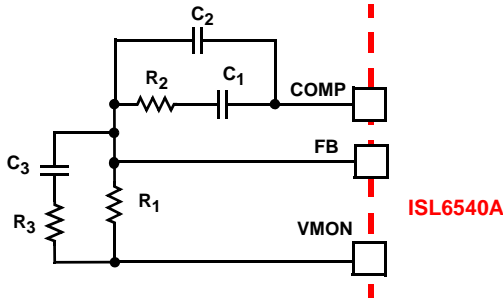
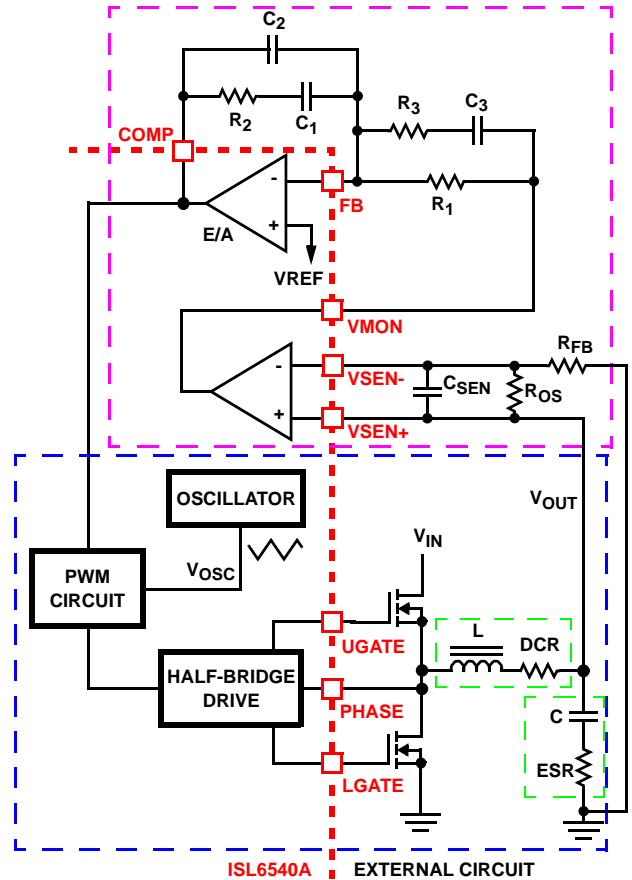

FIGURE 9. COMPENSATION CONFIGURATION FOR ISL6540A WHEN USING DIFFERENTIAL REMOTE SENSE
FIGURE 10. VOLTAGE-MODE BUCK CONVERTER COMPENSATION DESIGN
The ISL6540A single-phase converter is a voltage-mode controller. This section highlights the design considerations for a voltage-mode controller requiring external compensation. To address a broad range of applications, a type-3 feedback network is recommended (see Figure 9).
Figure 10 highlights the voltage-mode control loop for a synchronous-rectified buck converter, when using an internal differential remote sense amplifier. The output voltage ( $V_{OUT}$ ) is regulated to the reference voltage,  $V_{REF}$ , level. The error amplifier output (COMP pin voltage) is compared with the oscillator (OSC) triangle wave to provide a pulse-width modulated wave with an amplitude of  $V_{IN}$  at the PHASE node. The PWM wave is smoothed by the output filter (L and C). The output filter capacitor bank's equivalent series resistance is represented by the series resistor ESR.
poles, zeros and gain to the components ( $R_1$ ,  $R_2$ ,  $R_3$ ,  $C_1$ ,  $C_2$ , and  $C_3$ ) in Figures 9 and 10. Use the following guidelines for locating the poles and zeros of the compensation network:
1. Select a value for  $R_1$  (1k $\Omega$  to 10k $\Omega$ , typically). Calculate value for  $R_2$  for desired converter bandwidth ( $F_0$ ). If setting the output voltage to be equal to the reference set voltage as shown in Figure 9, the design procedure can be followed as presented. However, when setting the output voltage via a resistor divider placed at the input of the differential amplifier (as shown in Figure 10), in order to compensate for the attenuation introduced by the resistor divider, the below obtained  $R_2$  value needs be multiplied by a factor of  $(R_{OS}+R_{FB})/R_{OS}$ . The remainder of the calculations remain unchanged, as long as the compensated  $R_2$  value is used.
A small capacitor,  $C_{SEN}$  in Figure 10, can be added to filter out noise, typically  $C_{SEN}$  is chosen so the corresponding time constant does not reduce the overall phase margin of the design, typically this is 2x to 10x switching frequency of the regulator. As the ISL6540A supports 100% duty cycle,  $d_{MAX}$  equals 1. The ISL6540A also uses feedforward compensation, as such  $V_{OSC}$  is equal